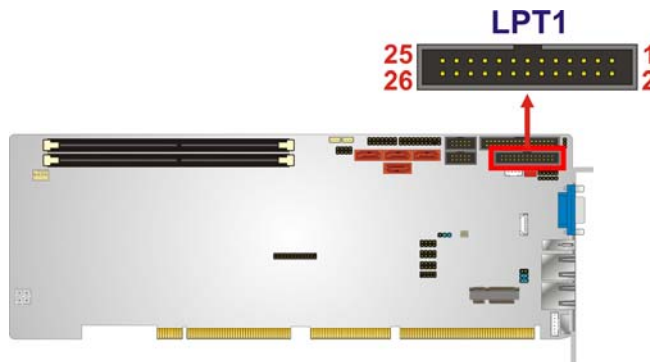

Figure 3-16: Parallel Port Connector Location
- CN Location:** See **Figure 3-16**